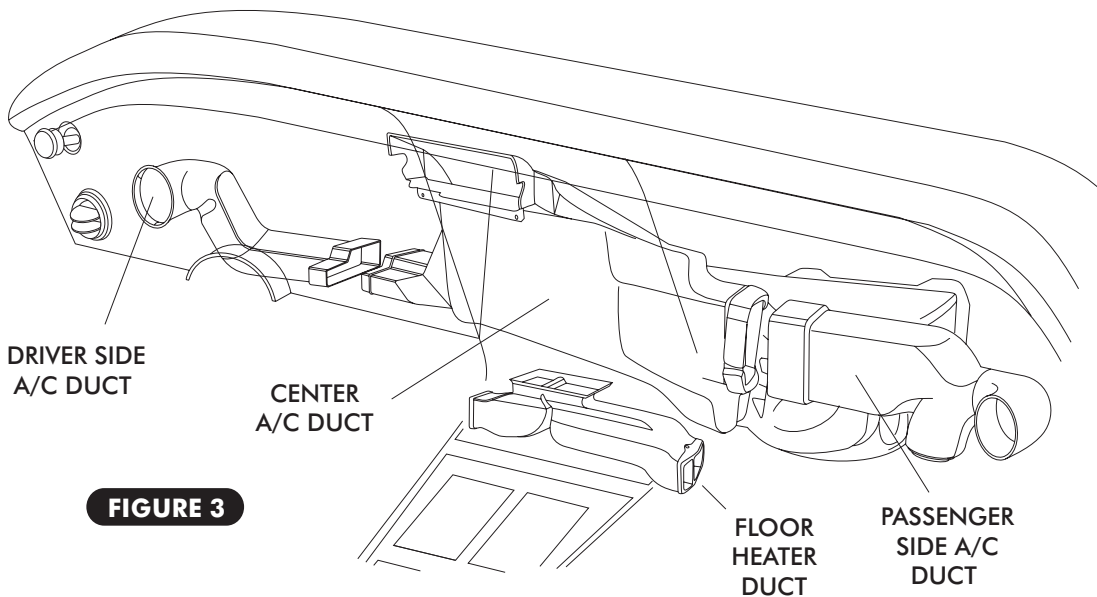

FIGURE 3
- REMOVE THE PASSENGER SIDE, CENTER, AND DRIVER SIDE A/C DUCTS AS SHOWN IN FIGURE 3 BELOW.